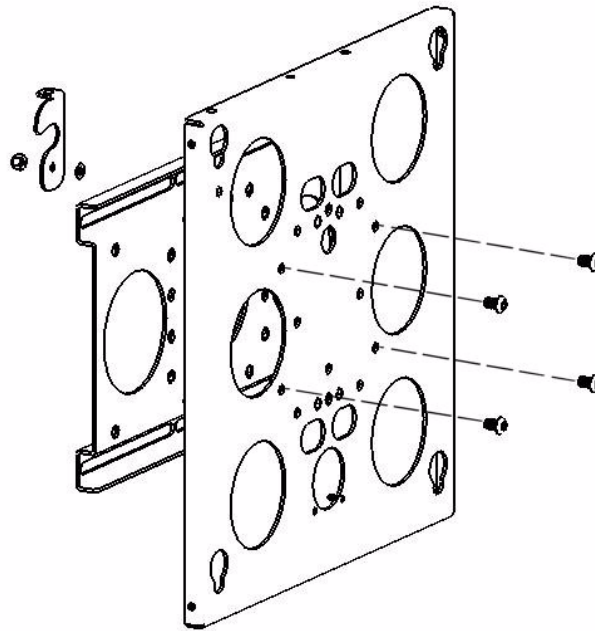

Figure 1. Parts
- (1) KEY, Allen, 3/16"
**BEFORE PROCEEDING:** Unpack the carton, verify contents shown in Figure 1 and read installation instructions completely. If you are missing any of the listed components, please contact Customer Service at 1-800/582-6480.